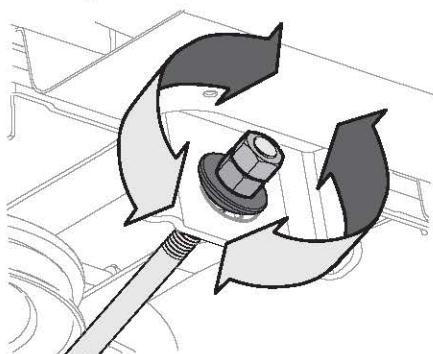

Figure 37
4. To raise the front of the deck, loosen the outer nut then tighten (thread inward) the inner nut against the front hanger bracket (Figure 37). When proper adjustment is achieved, re-tighten the outer nut to 25-30 ft-lbs (34 mm-40.7 N-m).
5. To lower the front of the deck, loosen the outer nut then loosen (thread outward) the inner nut, away from the front hanger bracket (Figure 37). When proper adjustment is achieved, re-tighten the outer nut.